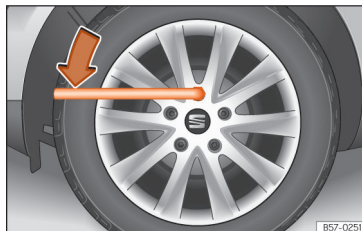

Fig. 219 Tyre change: slacken the wheel bolts.
- Fit the box spanner into the bolt as far as it will go »»» Fig. 219.